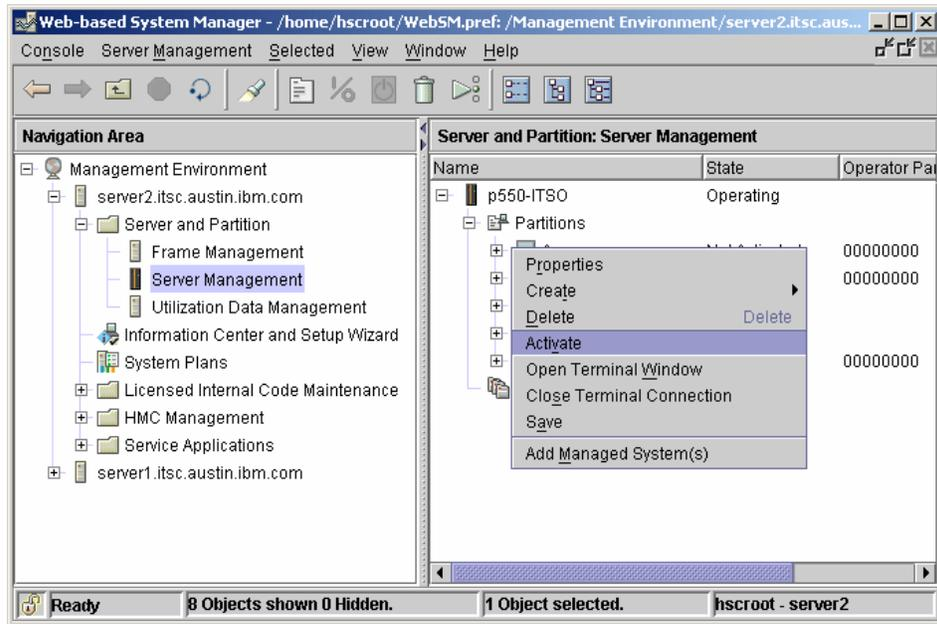

Figure 3-42 Activate DB\_server partition
2. Initiate the install process by activating the DB\_server client partition in SMS mode (see Figure 3-42).